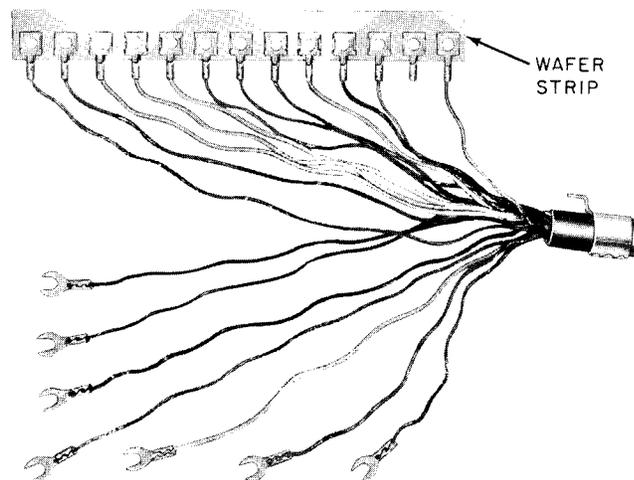

Fig. 1—Non-slotted Wafer Strip End of Mounting Cord, Early Type
2.08 Replace mounting cords of early manufacture (Fig. 1) as follows: